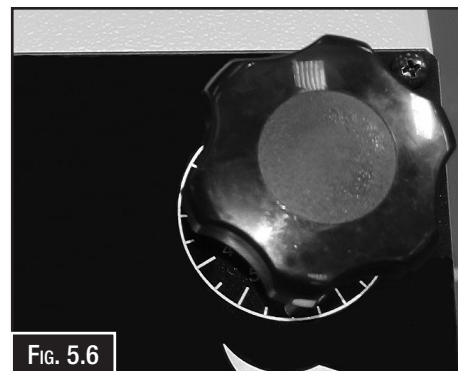

Fig. 5.6
2. Set the Feed Rate Dial to the desired feed rate position "0" (slowest), "9" (fastest). (Fig. 5.6)